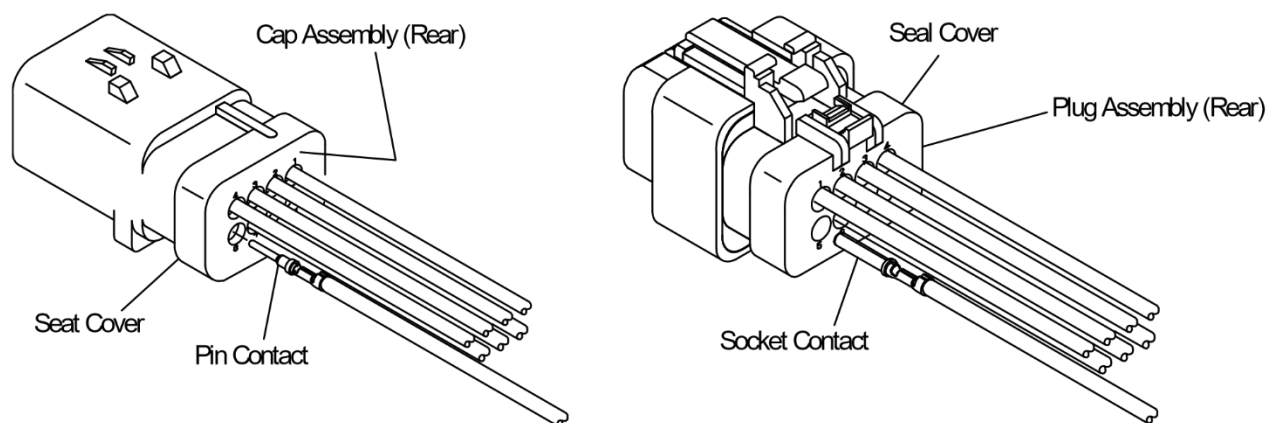

Figure 6
2. Align the appropriate contact with the desired circuit cavity at rear of the housing assembly. Push the contact straight into the cavity, forcing it through the wire seal. See Figure 6. Continue to push the contact straight into the cavity with the wire until the contact retention finger returns to its normal position behind the retention shoulder on the contact as indicated by an audible and tactile "click". Refer also to Figure 6.